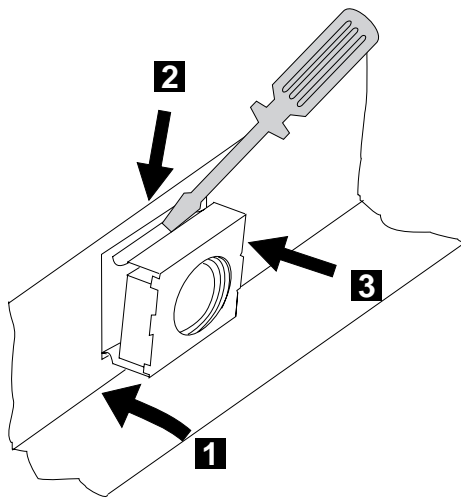

Figure 1-11. Installing the Captive Nuts
2. ____ Refer to Figure 1-11 to **install** the two captive nuts (PN 58G5766).